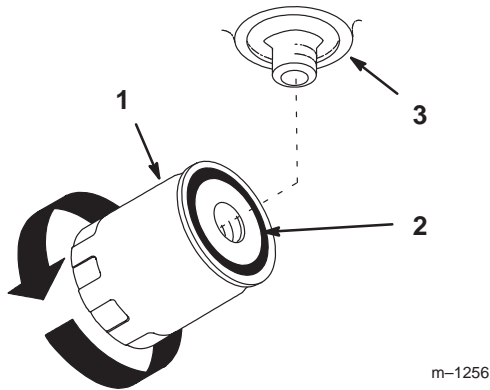

Figure 45
- Apply a thin coat of hydro fluid to the rubber gasket on the replacement filter (Fig. 45).
- When fluid overflows the filter, turn the oil filter clockwise until the rubber gasket contacts the filter adapter; then tighten the filter an additional 1/2 turn (Fig. 45).